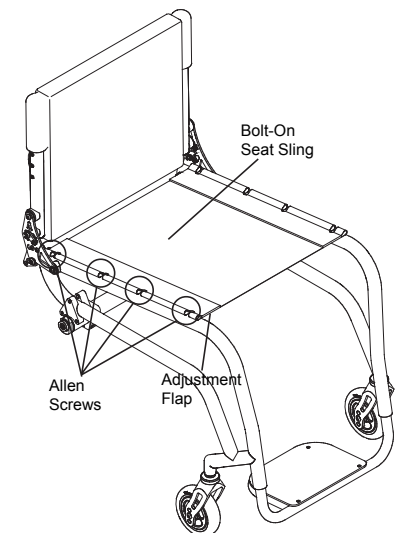

Figure 60
3. Loosen, but do not remove, the Allen screws on the side of the seat upholstery where the Velcro adjustment flap is located on the underside of the seat upholstery. See Figure 60.